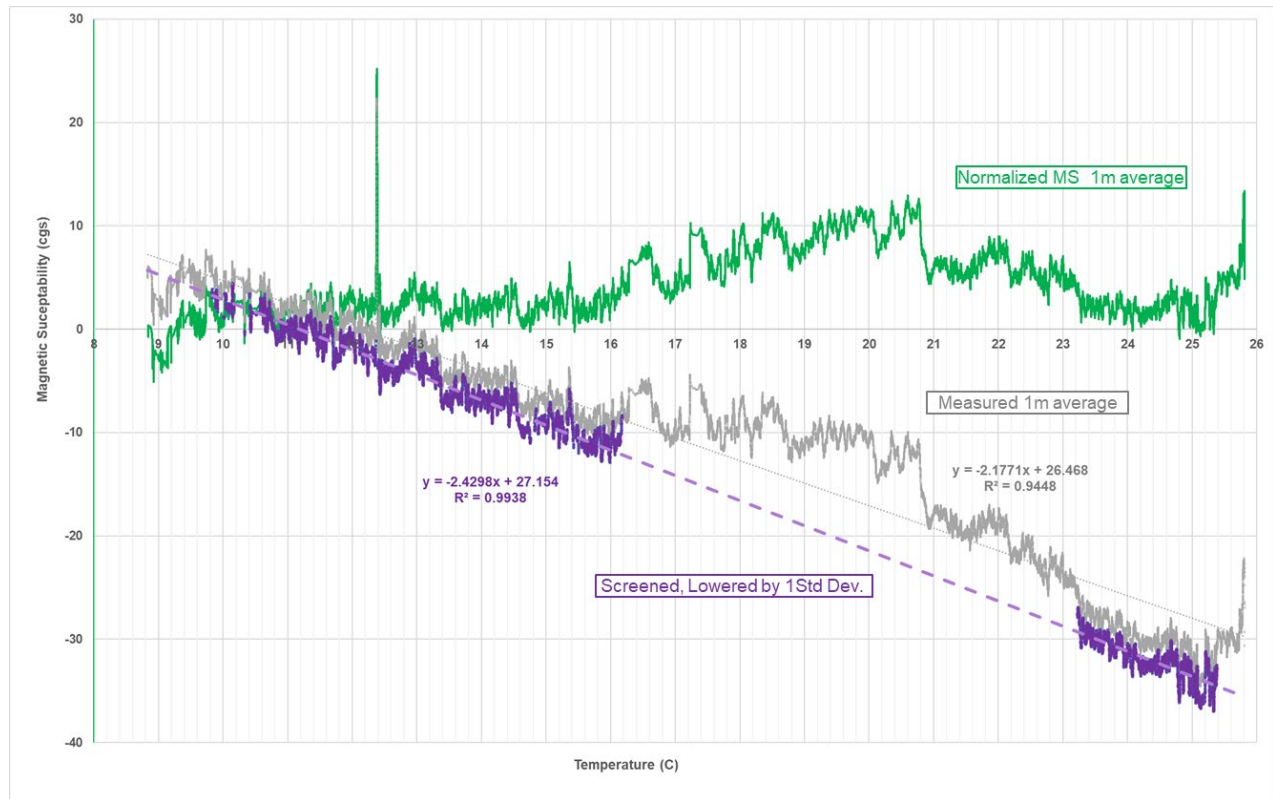

Figure 7 Magnetic Susceptibility Temperature Normalization Process
- to correct for temperature influence on the MS data (Figure 7):
- the MS data between the bottom of the casing and the Precambrian (averaged over 1 m to minimize small scale geologic and instrument variability) were cross-correlated to temperature (median filtered over 1 m) and a linear relationship established (Figure 7 grey)
- to establish a lower bound (minimize geologic influence) (Figure 7 purple),
- The normalization was applied to the original data (1 m average, grey) to provide a MS log which honours the variability of the raw data and relative values while minimizing temperature influences with a nominal zero lower limit. (Figure 7 green).